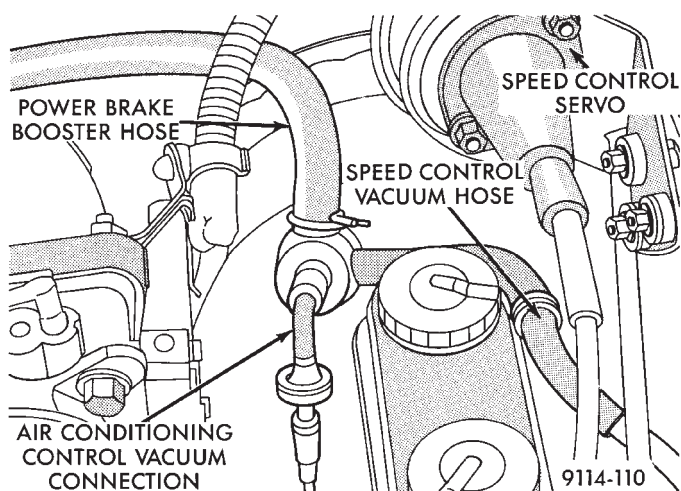
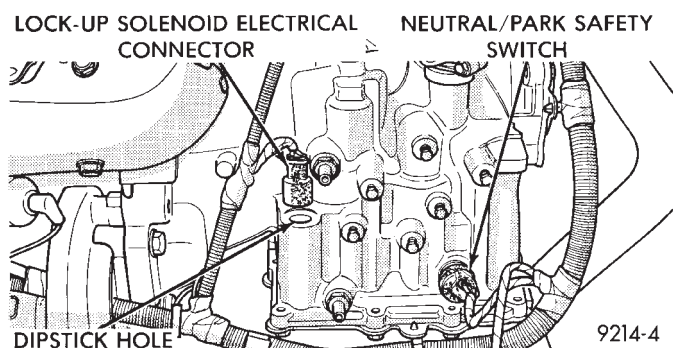

Fig. 10 Power Brake Booster and Speed Control Vacuum Hose Connections
Fig. 11 Automatic Transmission Electrical Connections
(14) Check power brake booster and speed control vacuum connections (Fig. 10).
(15) Check engine harness to main harness electrical connections.
(16) Check park/neutral switch wiring connection (Fig. 11).